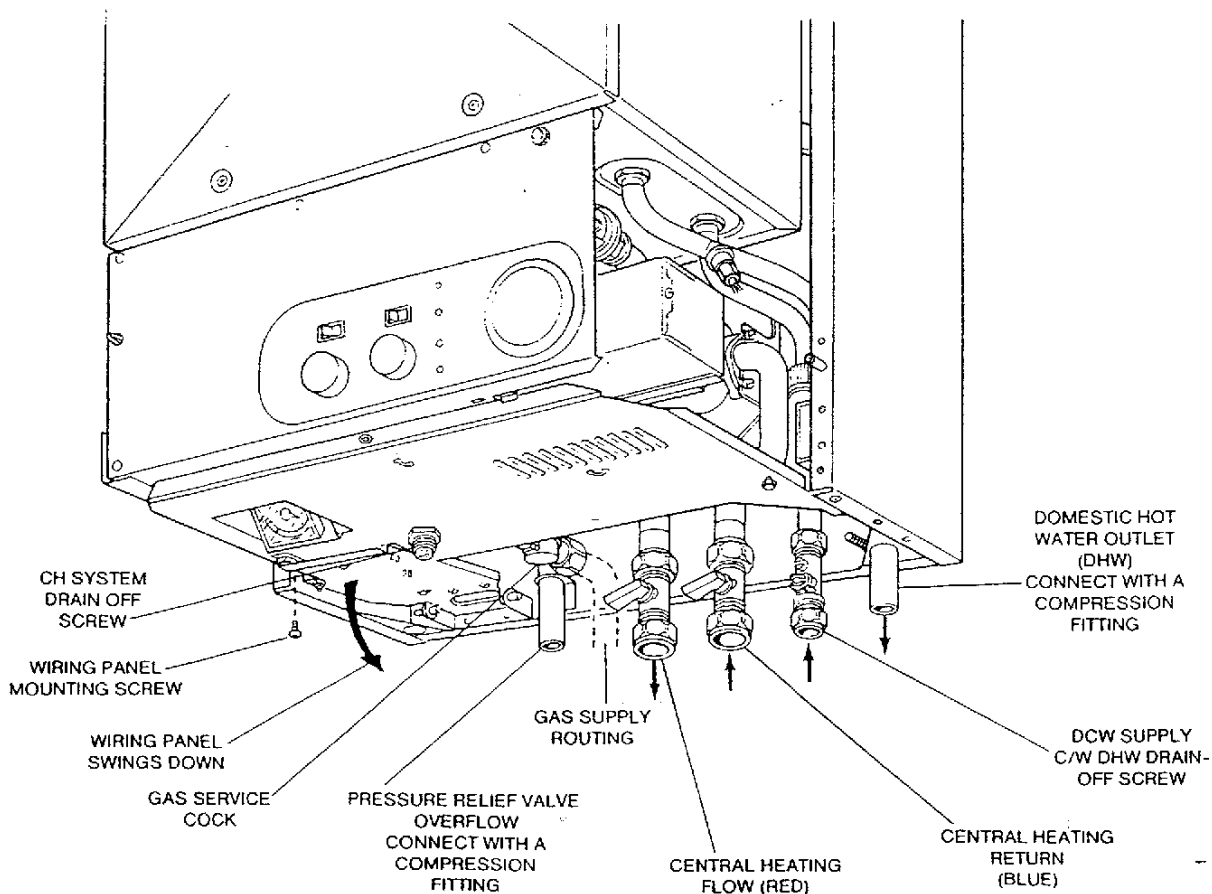

Fig. 14
2. GAS CONNECTION (see Fig.14)
4. C.H. WATER CONNECTIONS (see Fig. 14)
- Undo the single retaining screw on the underside of the wiring panel and allow the panel to swing open. See Fig. 14.